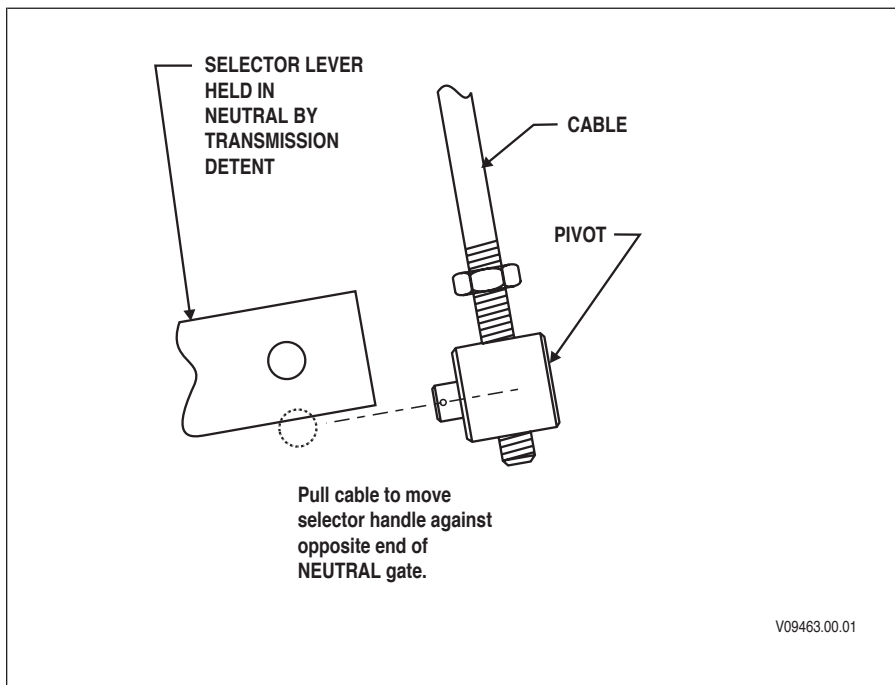

Figure 3–3. Proper Shift Selector Cable Adjustment
9. Attach the pivot to the selector lever and secure with the lock pin. If a jam nut is provided with the cable hardware, tighten the jam nut to lock the pivot to the cable end as noted in Figure 3–5. If the cable manufacturer does not provide a jam nut with the cable assembly, do not add one during the installation process.
10. Once this attachment is made, move the selector through all the range positions at the operator’s station. Verify that free-pin fit exists in each range position, and that the position of the shift lever is determined by the internal transmission detent—not by tension or compression on the shift cable. Special attention should be devoted to the free-pin fit in the **N** (Neutral) position, in the lowest forward range, **1** (First), and if available, in the **P** (Park) or **PB** (Auto-Apply Parking Brake) position (refer to Figure 3–6).